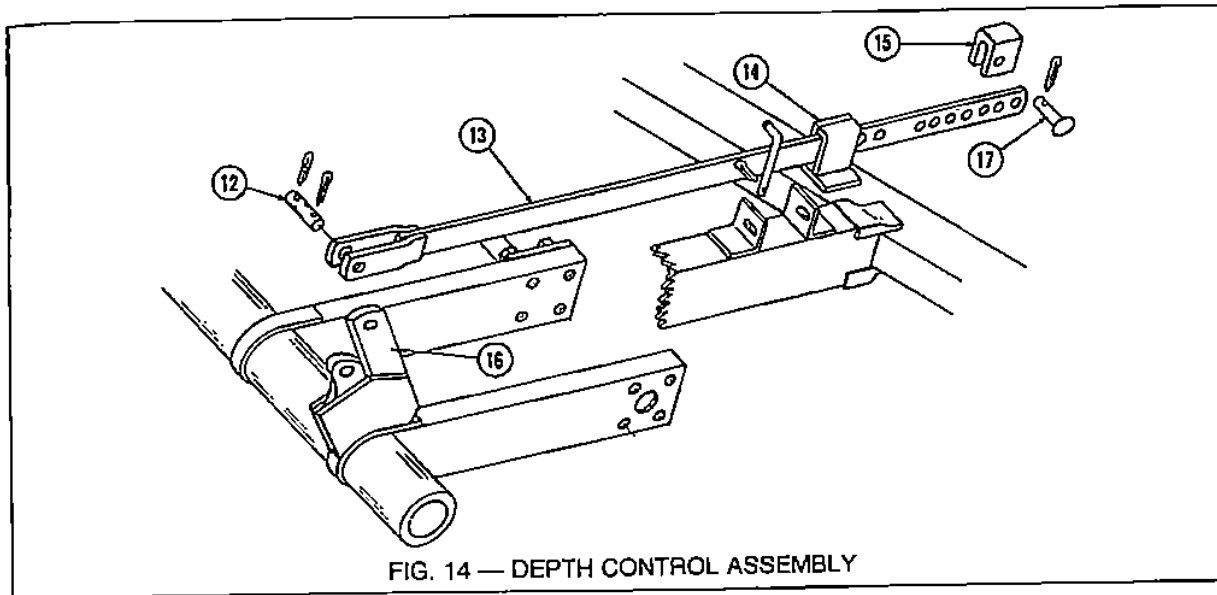

FIG. 14 — DEPTH CONTROL ASSEMBLY
4. Depth Control Assembly: (See Fig. 14)